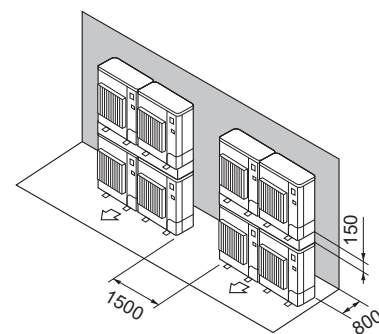

Fig. 2-19
(7) Stabile enheder arrangement (Fig. 2-19)